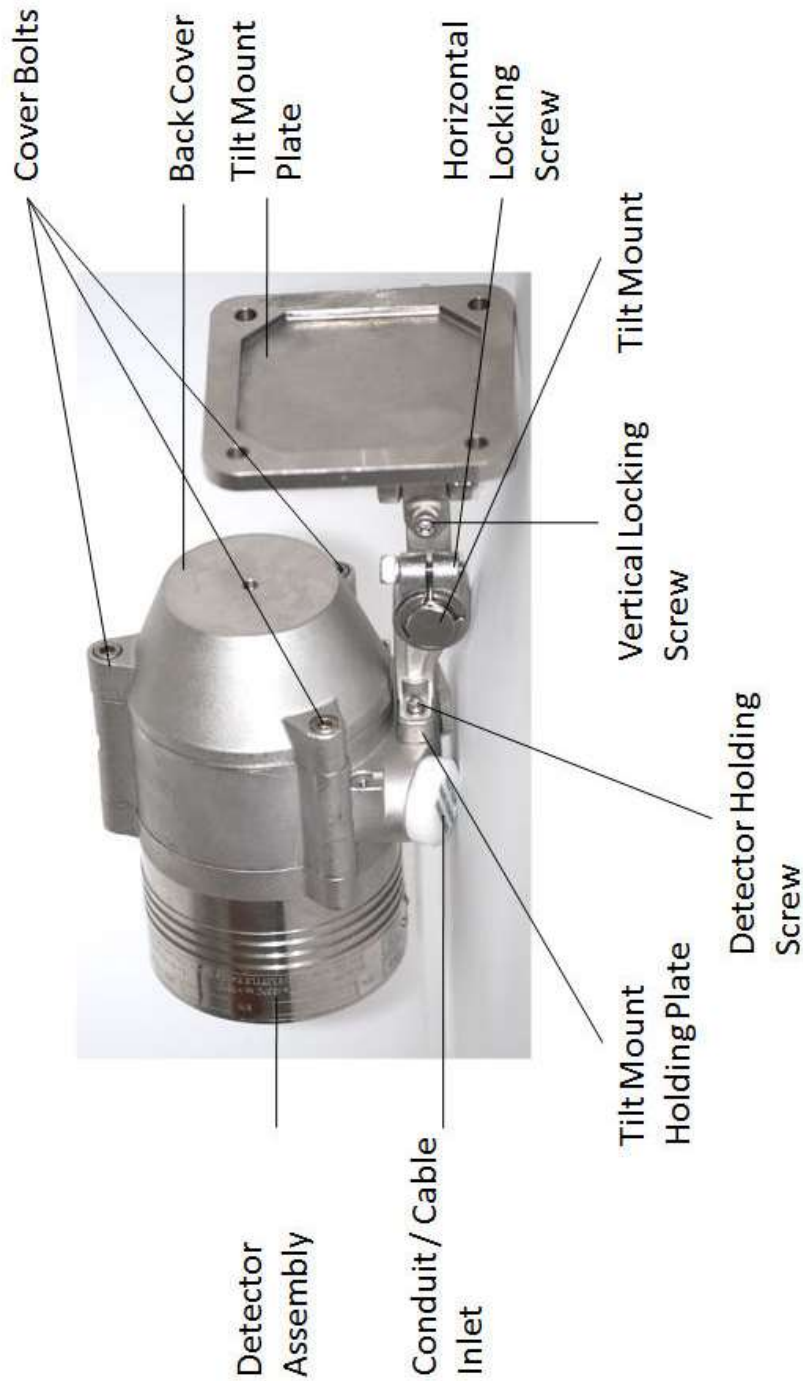

Figure 4: Detector with Tilt Mount
Figure 4 shows the detector mounted on the tilt mount.
- 5** Place and secure the detector's back cover by screwing the 3 socket-head-screws in the cover bolts (Figure 4).